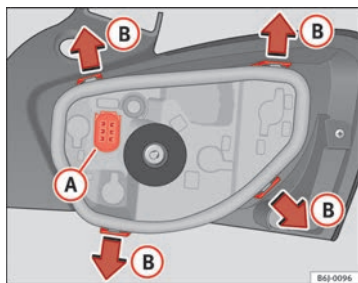

Fig. 178 Changing the tail light bulbs.
- Remove the bulb holder, separating it from the casing. To do this, press tabs (B) in the direction of the arrows ⇒ Fig. 178.